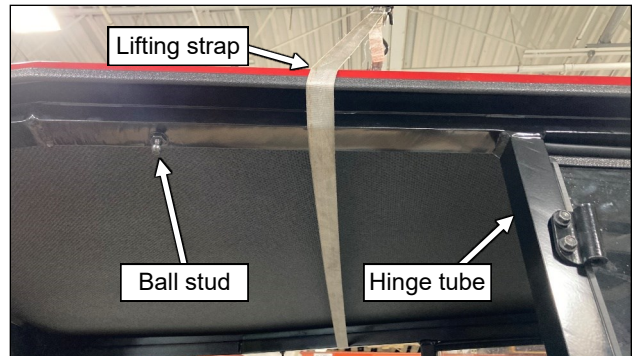

Fig. 4.4 (Position lifting strap)
- 4.4 See fig. 4.4. Position a lifting strap where shown so that it sits roughly centered on the hinge tubes and the ball studs on the frames.